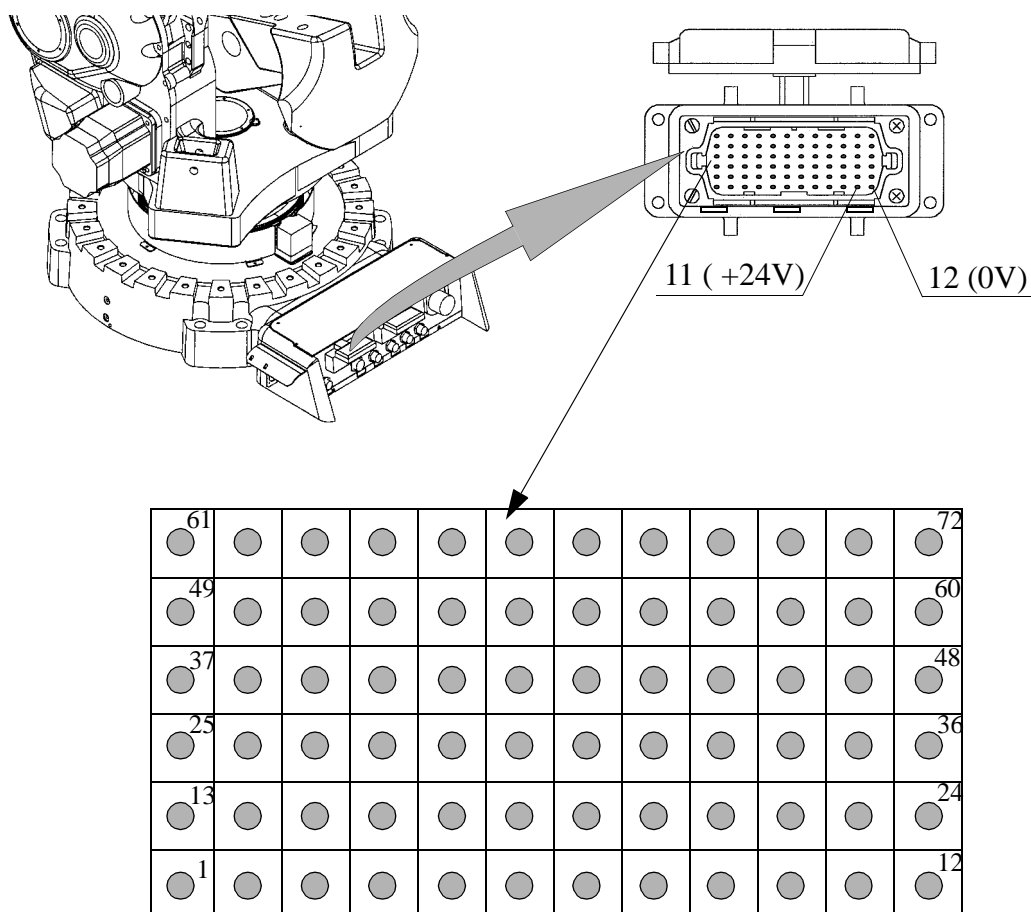

Figure 11 Connection of external voltage to enable disengagement of the brakes.
All axes come equipped with holding brakes. When the position of a manipulator axis needs to be changed without connecting the controller, an external voltage supply (24 V DC) must be connected to enable disengagement of the brakes. The voltage supply should be connected to the connector at the base of the manipulator (see Figure 11).
**External power must be connected as shown in Figure 11. Incorrectly connected power can release all brakes, causing immediate movement of all axes.**